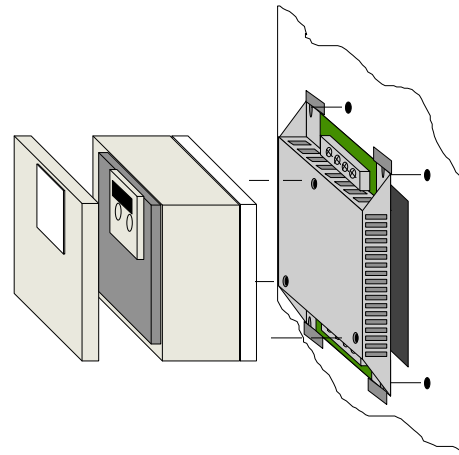

Figure 1. Installation
- The inverter fits directly onto the top panel of the filter (Figure 1). The filter is then secured to the back of the cabinet.